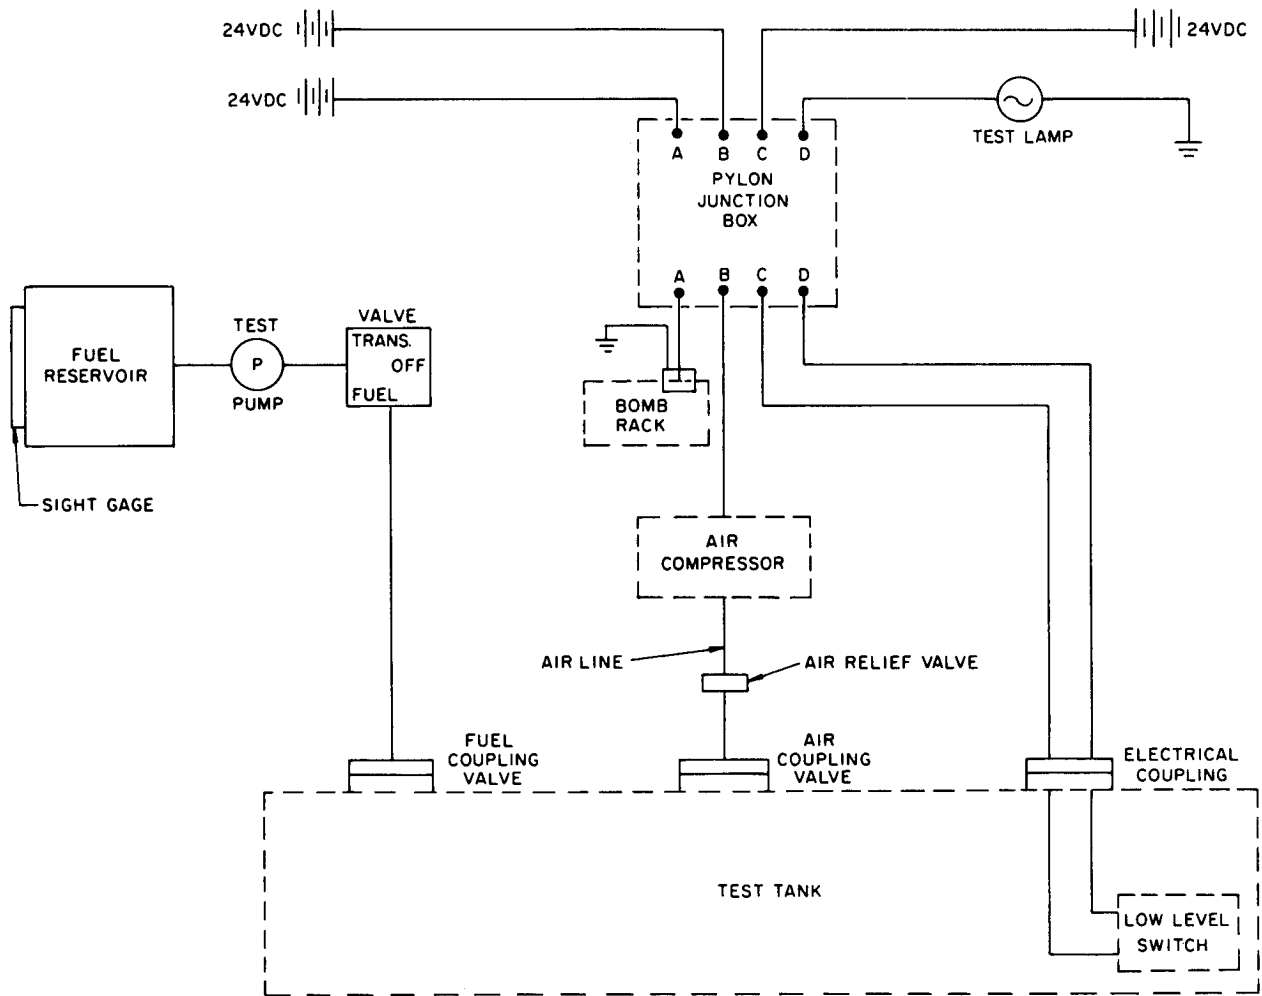

Figure 17. Final assembly functional test—electrical, fuel, and air connections.
f. Connect test fuel circuit as shown in figure 17.